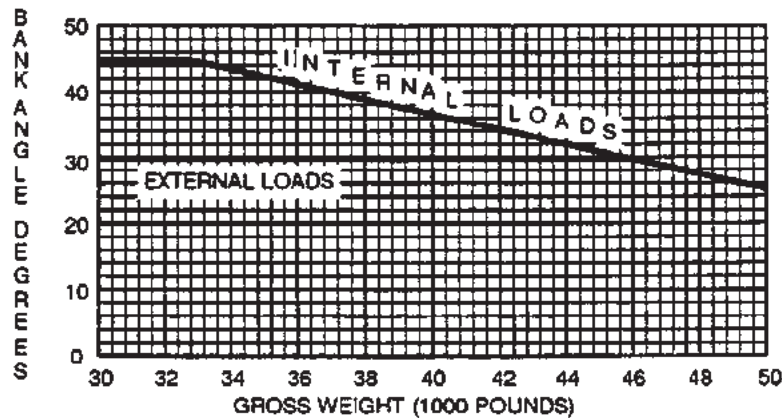

Figure 5-6-1. Bank Angle Limitations
- With an inoperative cruise guide indicator, use the bank angle limits defined by fig. 5-6-1.